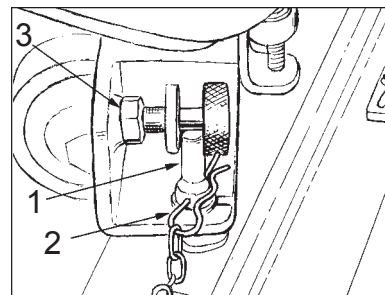

Figure 14
1. Insert the left stud bolt (1) on the squeegee into the left slotted hole in the support frame on the machine. Install the hair pin (2) into the stud bolt hole (see figure 14).
1. The squeegee body can be tilted to adjust the squeegee blade flare in the middle to match the flare on the ends. To adjust the tilt, loosen the lock nut (3) on the adjusting bolt located on the left side of the squeegee (see figure 14).